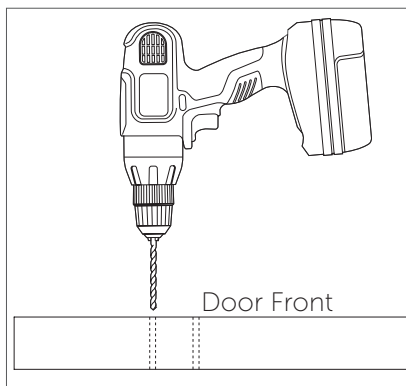

Figure 3
6. Drill two pilot holes all the way through the door for each hanger using a drill with an 1/8" drill bit. (Figure 3).